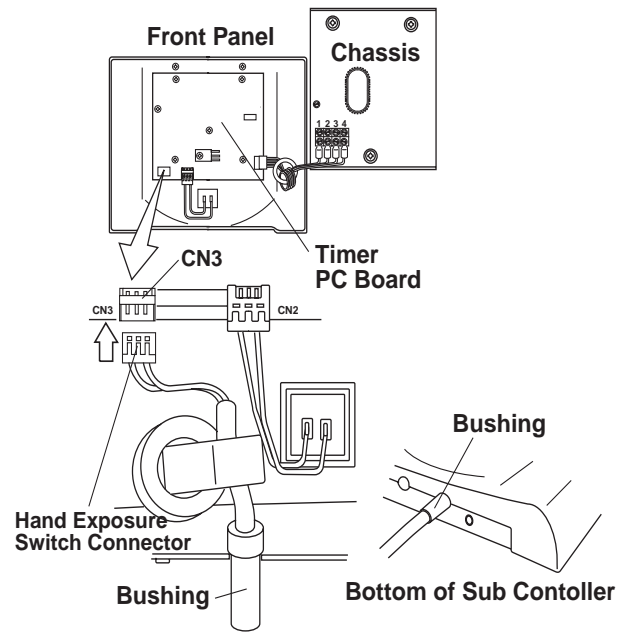

Fig.3-23 Connecting Hand Exposure Switch
3. Connect the connector at the end of hand exposure switch coil cord to CN3 connector on the timer PC board. **(Fig.3-23)**
4. Insert the bushing of coil cord into the slot at the bottom of the chassis, reattach the front cover and secure two (M3 x 8mm) screws again. **(Fig.3-23)**